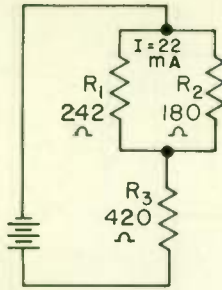

Fig. 11
9. 29.6 . . . Refer to Fig. 11. First find the voltage drop across the $242\text{-}\Omega$ resistor. $E = IR = 0.022 \text{ A} \times 242 \Omega = 5.324 \text{ V}$. The same voltage must appear across the $180\text{-}\Omega$ resistor, so the current through the $180\text{-}\Omega$ resistor is $I = E/R = 5.324 \text{ V}/180 \Omega = 0.0296 \text{ A}$. In this problem we do not have to consider the value of the series resistor, because we know the voltage across the resistor in parallel with the $180\text{-}\Omega$ resistor.